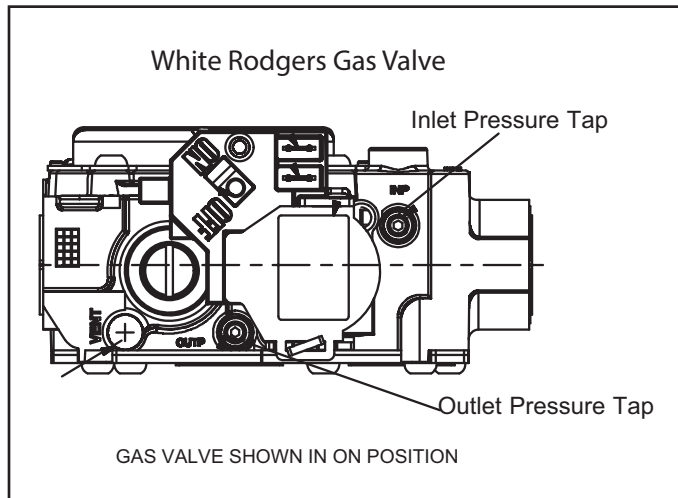
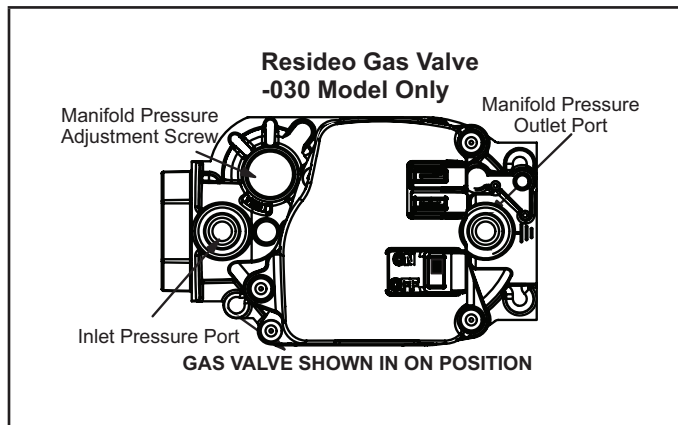

FIGURE 19
FIGURE 20
- 6 - Move gas valve switch to OFF position. Do not force. See FIGURE 19 and FIGURE 20.
- 8 - Move gas valve switch to ON position. Do not force. See FIGURE 19 and FIGURE 20.
- 4 - Move gas valve switch to OFF position. Do not force. See FIGURE 19 and FIGURE 20.
- 4 - If necessary, make adjustments. FIGURE 19 and FIGURE 20 show location of adjustment screw.